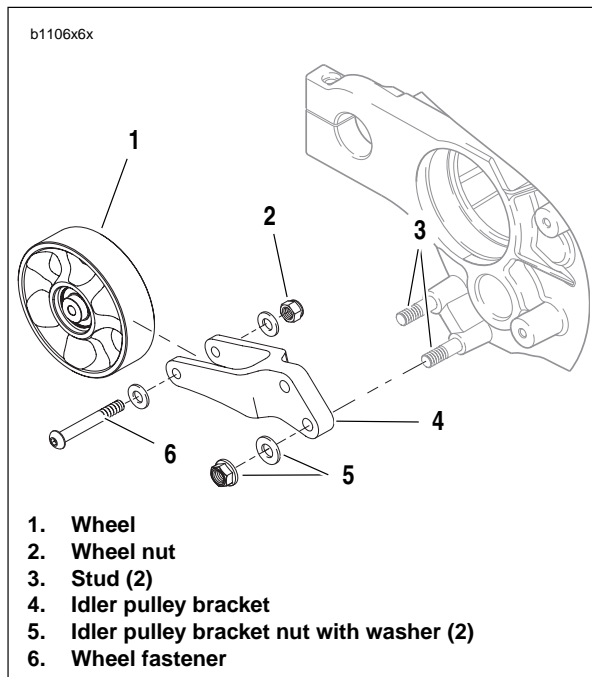

Figure 6-100. Idler Pulley Assembly
- See Figure 6-100. Remove both bracket nuts with washers (5) attaching idler pulley bracket (4) to studs (3).
- Inspect pulley by spinning wheel (1) and checking for excessive wheel bearing wear. See INSPECTION/1.10 DRIVE BELT.
- If pulley wheel needs replacement, remove fastener (6) and nut (2) from idler pulley bracket (4) and discard. Replace with **new** pulley wheel (1).